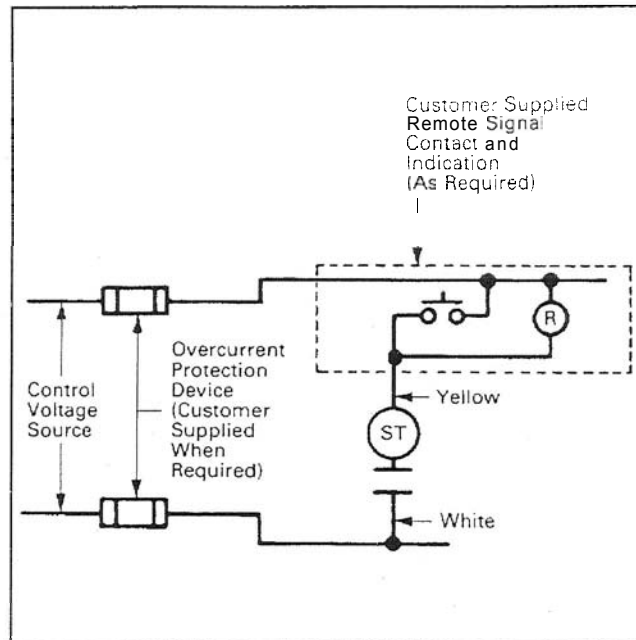

Fig. 2-5 Shunt Trip Connection Diagram.
- 2-13. Connect shunt trip as required (see Fig. 2-5).